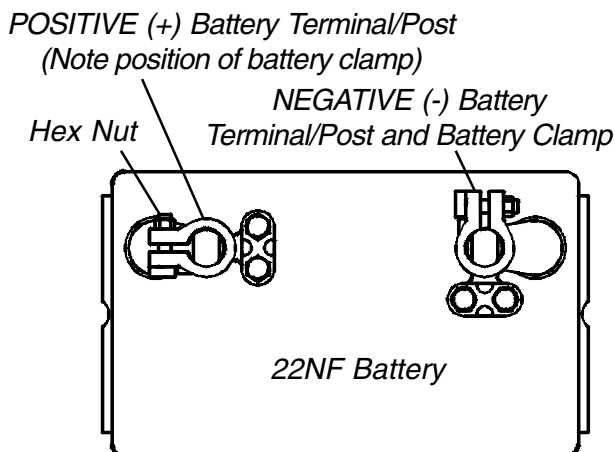

FIGURE 4 - CONNECTING BATTERY CABLES - BATTERY CLAMP METHOD
- C. **FOR DUAL 22NF BATTERIES THAT DO NOT HAVE MOUNTING HOLES IN THE BATTERY TERMINAL(S)/POST(S)** - Use battery clamp method. Refer to FIGURES 4, 5 AND 6.
Battery Clamp Method (FIGURES 4, 5 and 6).
- B. If the battery clamp on the POSITIVE (+) battery terminal/post is positioned as shown in FIGURE 4, proceed to STEP 2.
- Reposition the battery clamp on the POSITIVE (+) battery terminal/post as shown in FIGURE 4.